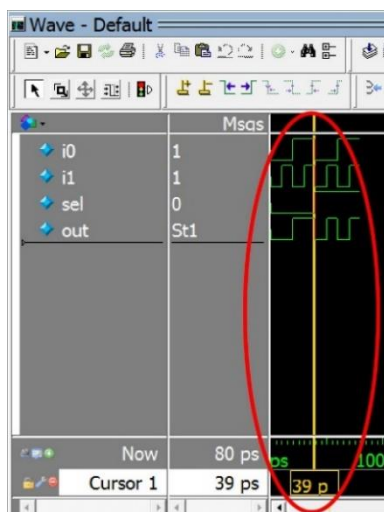
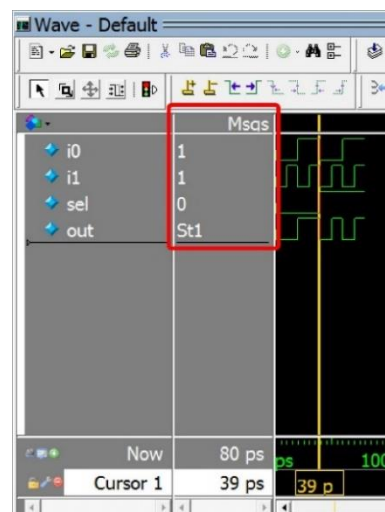

Figure 8: You can move the cursor (yellow line) within the waveform viewer (black background) of the Wave pane.
Figure 9: The values in the Msgs column will automatically update as you move the cursor.
- **View signal values in the Msgs column:** Left-click anywhere within the waveform viewer (the part with the black background) to move the cursor, which is the yellow vertical line with the time in yellow at the bottom (*Figure 8*). The Msgs column will update with the signal values at the time specified by the cursor (*Figure 9*).